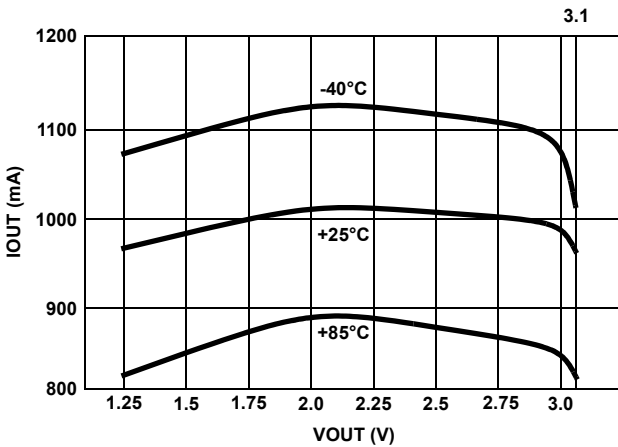
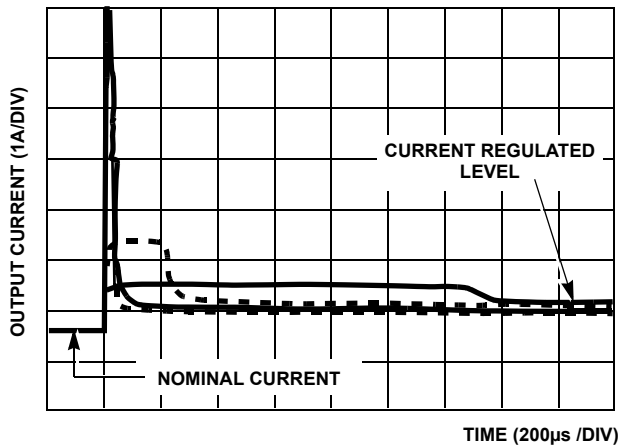

FIGURE 4. CURRENT REGULATION vs Vout (VIN = 3.3V)
FIGURE 6. OC TO CR SETTLING TIME WAVEFORMS
The ISL6119 has integrated current sensing on the power MOSFET that allows for rapid control of OC events. Once an OC is detected the ISL6119 goes into its current regulation (CR) control mode. The ISL6119 CR level is set to a nominal 1A. This current regulation is  $\pm 25\%$  over the full operating temperature and voltage bias range. See Figures 4 and 5 for illustrative curves. The speed of this control is inversely related to the magnitude of the OC fault. Thus a hard overcurrent is more quickly controlled than a marginal OC condition. See Figure 6 for waveforms illustrating this and Figure 7 for an accompanying graph.